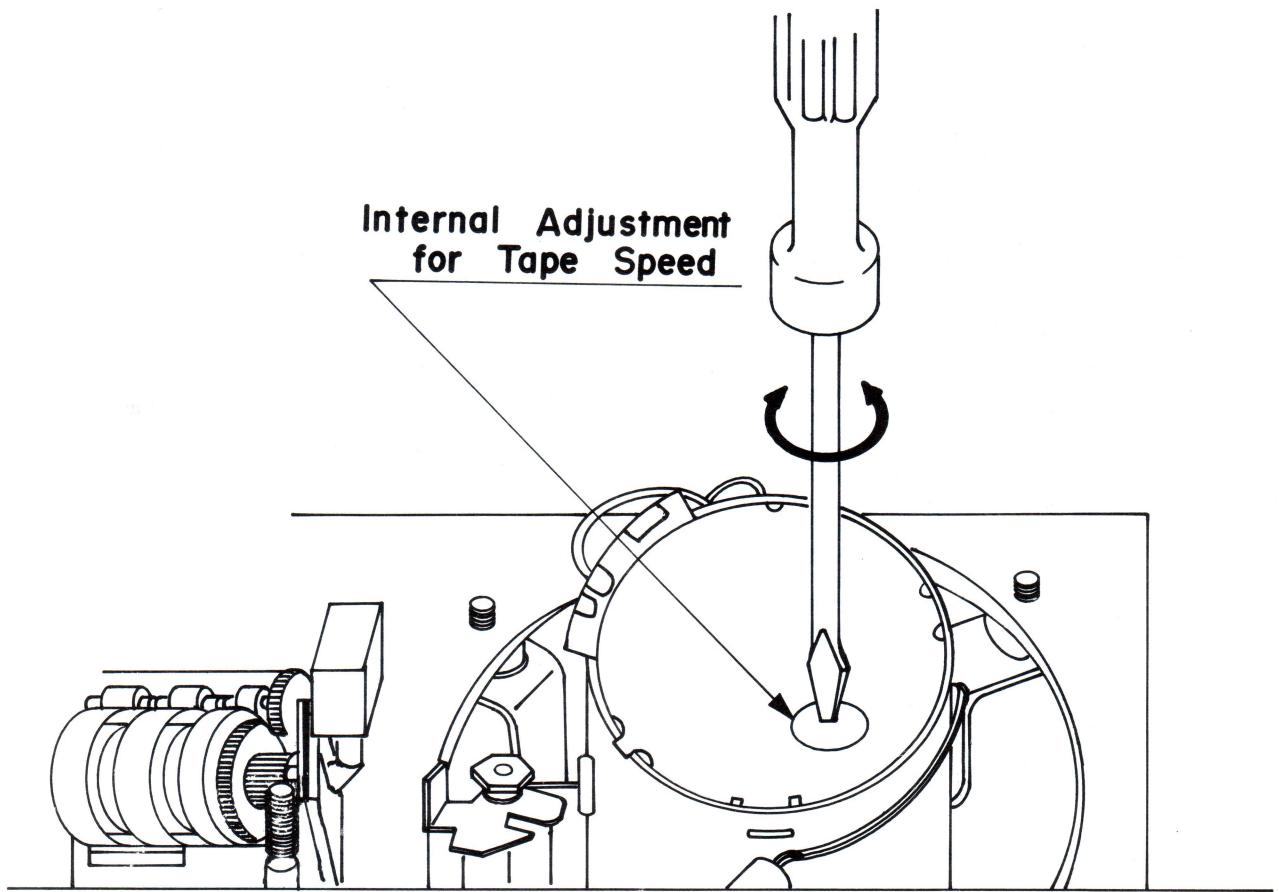

Fig .3 Tape Speed Adjustment Location
3. Adjust the control located at the top of the meter for a reading of 3000 Hz ± 5 Hz on the frequency counter (fig. 3). (This tape speed alignment should be done after approx. 30 seconds operating time).